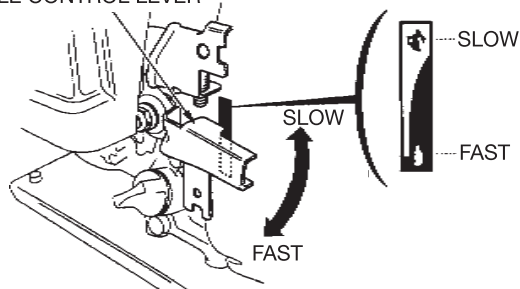

Fig.9
7. Put the governor handle at the preset speed (as shown on the Fig. 9)